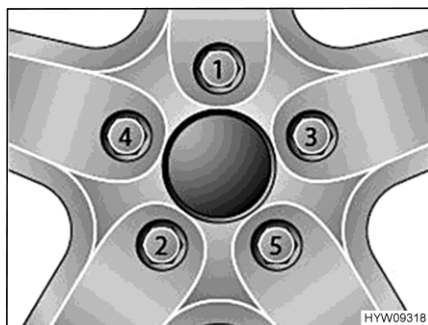

Fig. 76 Tightening the wheel nuts or wheel bolts cross-wise
- Tighten the wheel nuts or wheel bolts in the order shown in Fig. 76. In order to do this, use a torque wrench and comply with the specified tightening torque (see section 14.5).
- Check regularly that the wheel nuts or wheel bolts are firmly seated. Re-tighten the wheel nuts or wheel bolts of a changed wheel after 50 km (30 miles). While doing so, proceed in the order shown in Fig. 76.
- When using new or newly painted rims, re-tighten the wheel nuts or wheel bolts once again after approx. 1,000 to 5,000 km (600 miles to 3,000 miles). While doing so, proceed in the order shown in Fig. 76.